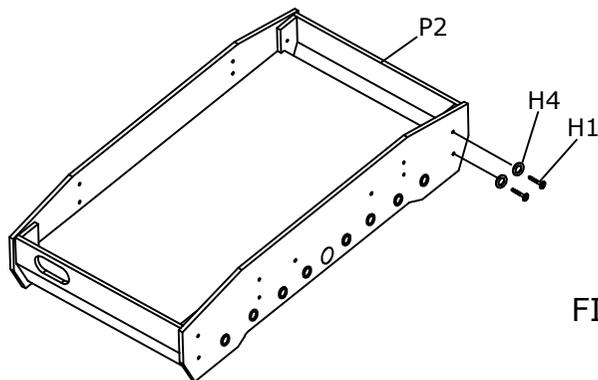

FIGURE 2
2. Attach the two end panels **P2** to the side panels **P1** as shown in **figure 2**. Remember the groove must face towards the playfield. Attach the end panels with bolts **H1** and washers **H4** into the pre-installed dowel connectors. Tighten all hardware at this time.